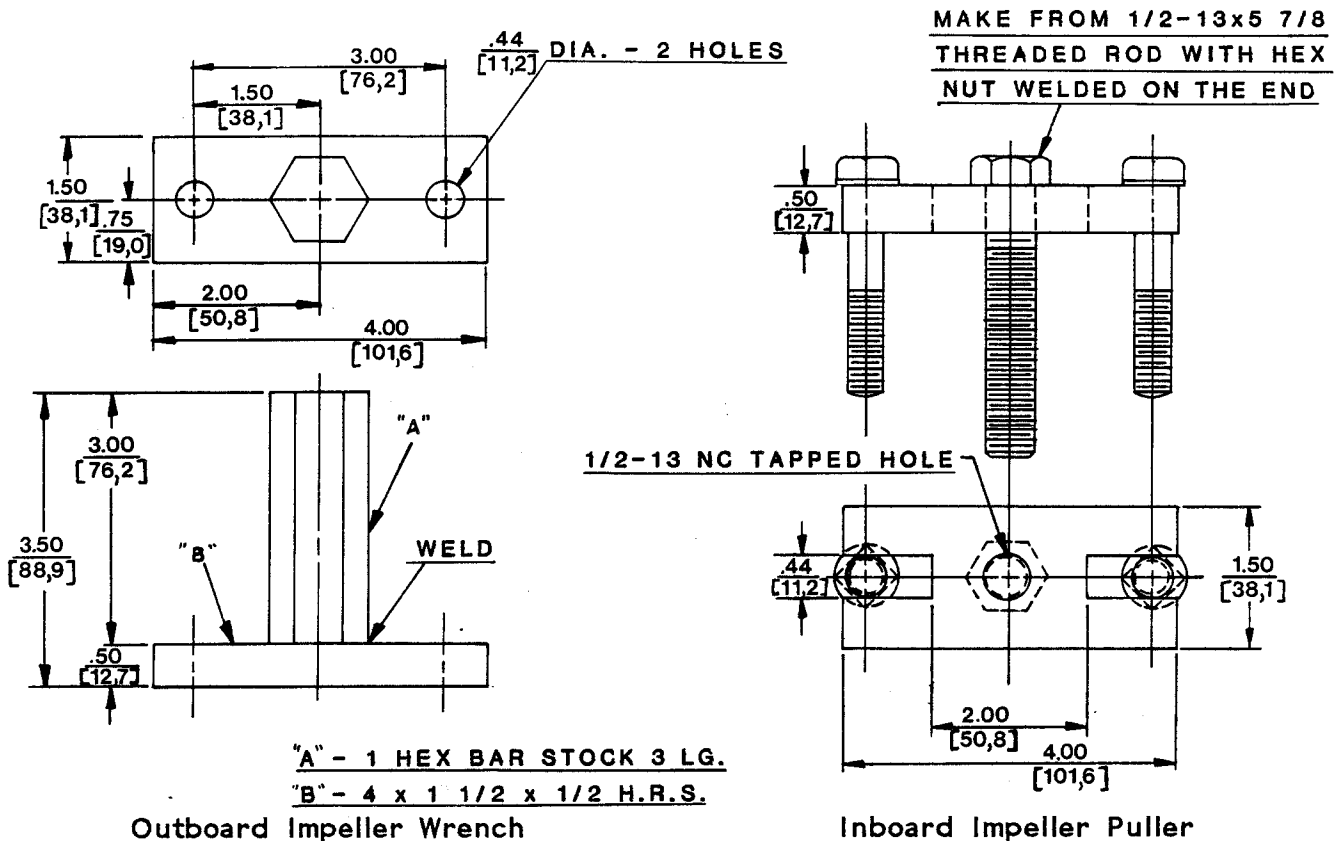

Figure 3.
To remove the outboard impeller (2), construct an impeller wrench similar to the one shown in Figure 3.
To remove the inboard impeller (3), construct an impeller puller similar to the one shown in Figure 3. Install the puller onto the impeller and use the center jacking screw to pull the impeller off the shaft. Remove the shaft key (49).